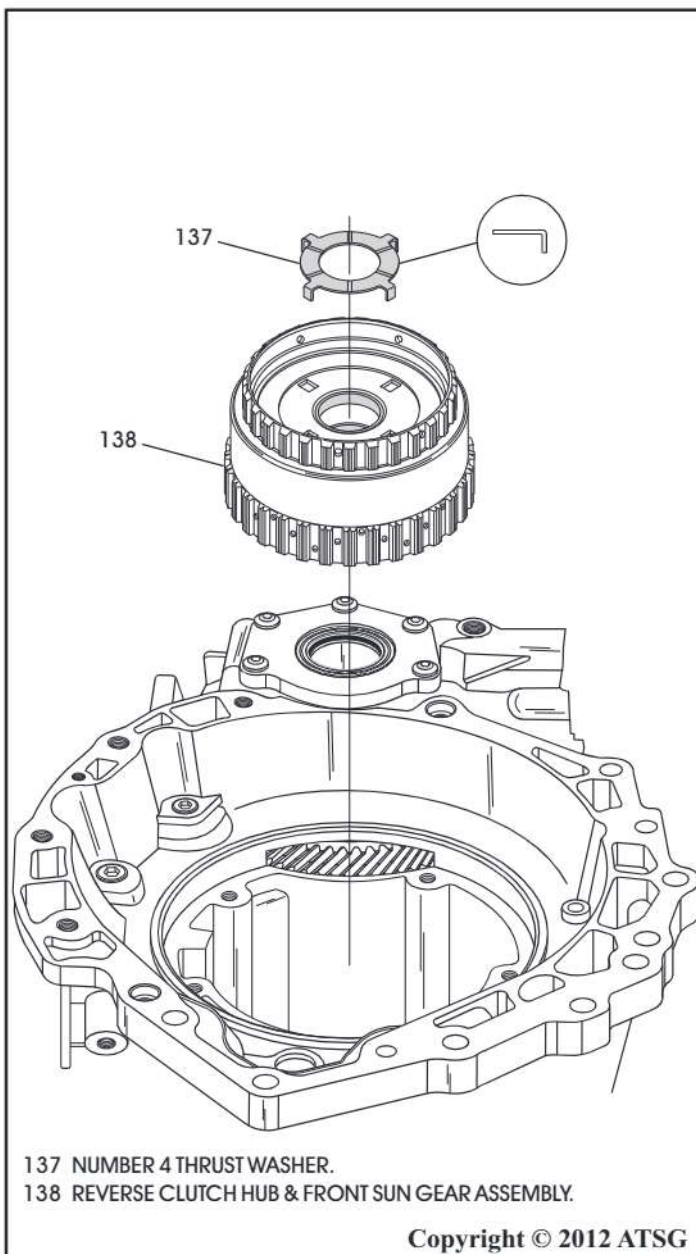

Figure 255
51. Install reverse clutch hub and sun gear assembly, as shown in Figure 255, by rotating back and forth to engage the 2-4 clutches until it is fully seated.
52. Install the number 4 thrust washer, as shown in Figure 255, and retain with Trans-Jel®.